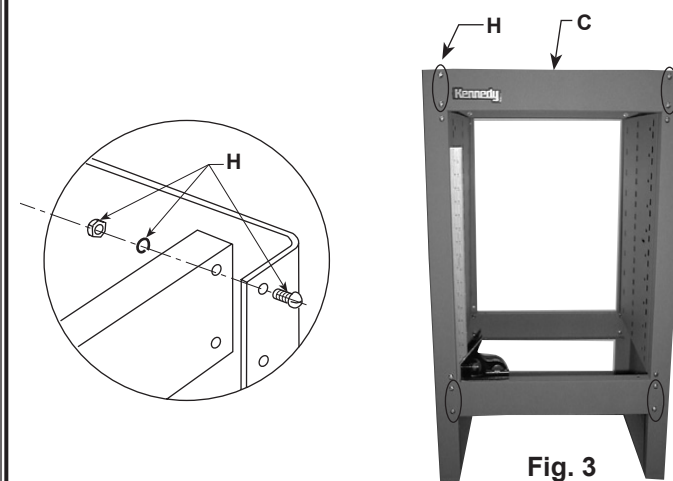

Fig. 3
1. Attach Rails (C) to End Panels (A) top and bottom with (8) Fasteners (H) as shown in Fig. 3. Tighten nuts finger tight until assembly is checked for square alignment. Tighten with wrench.